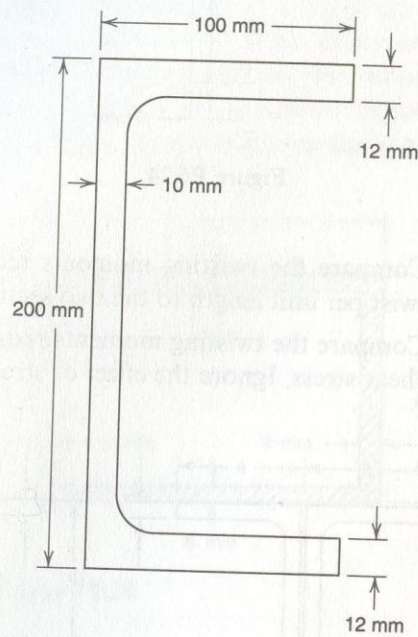

Figure P6.22
- 6.22. An aluminum ($G = 26.7 \text{ GPa}$) torsion bar has the cross section shown in Fig. P6.22. The bar is subjected to a twisting moment $T = 1356 \text{ m}\cdot\text{N}$.